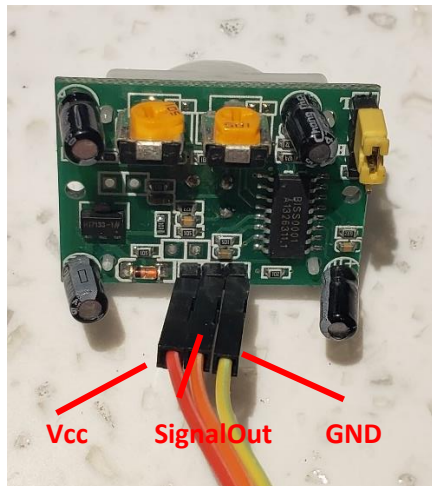

Figure 1: pinout PIR
- Connect the PIR sensor to the AD2. Look at figure 1 to see the pinout of the HC-SR501 model. Connect GND on the sensor to GND on the AD2. Out on the sensor in this tutorial will be connected to the oscilloscope in +5V line on the AD2(this sensor can also run at 3.3V). Note*, connect the – line for oscilloscope channel 1 to GND on the AD2 since the grounds between the supply voltage and the sensor are common. Finally, connect the Vcc on the PIR to V+ supply line on the AD2.